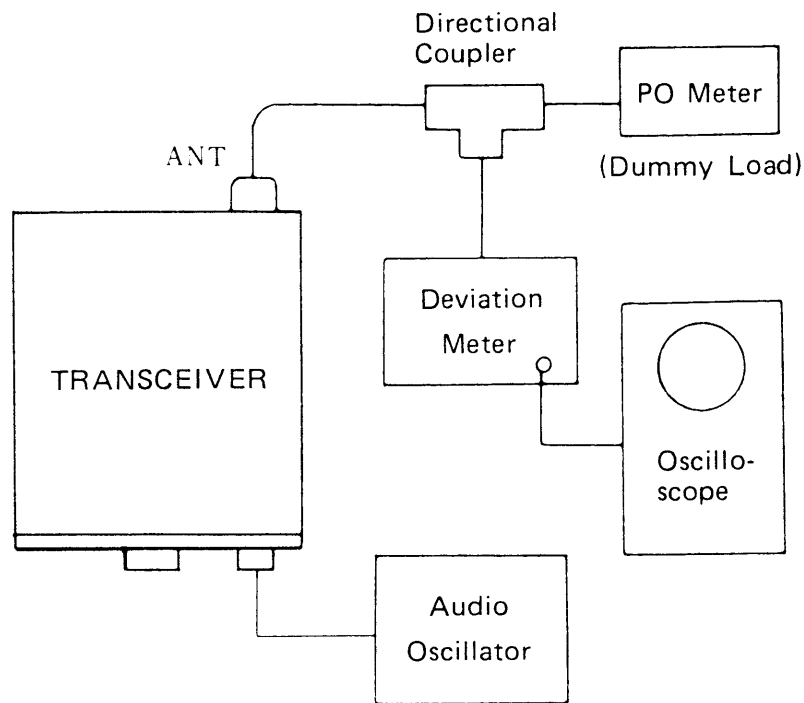

Figure 2
- (a) Assemble the test equipment and the transceiver as shown in Figure 2.